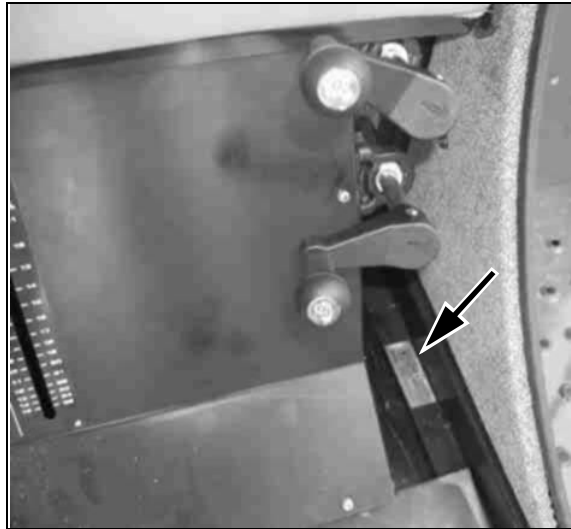

Fig. 7
**Cab identification - Fig. 7**